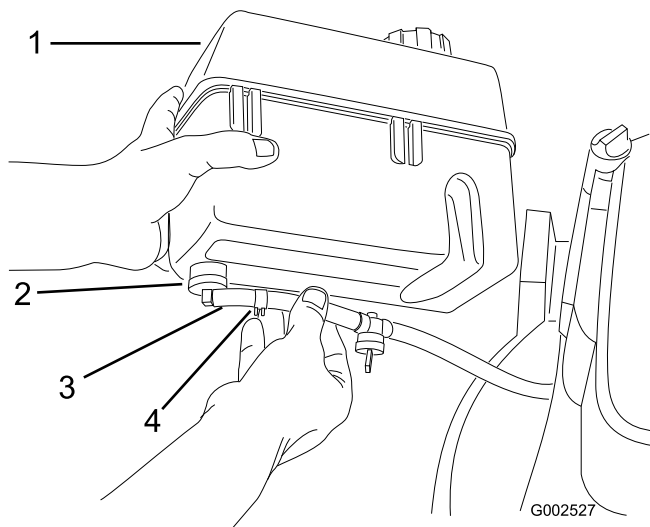

Figure 4
1. Slide the end of the fuel line onto the elbow fitting (Figure 4).